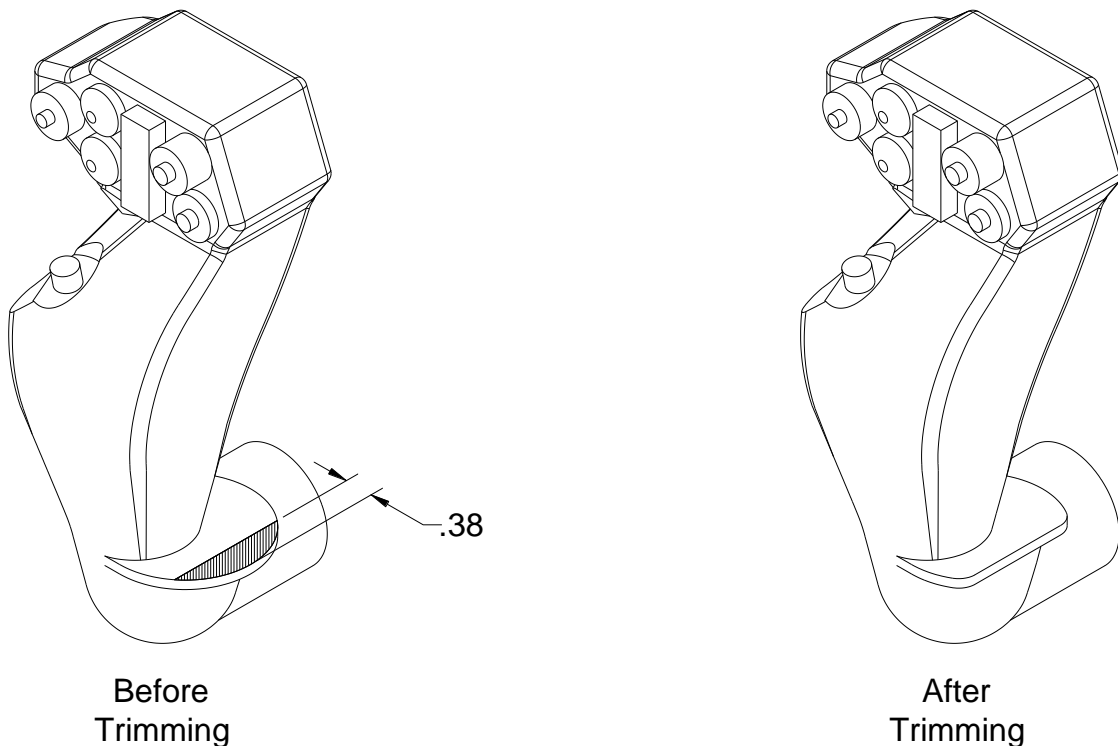

FIGURE 1
- 2.2 **Modification of Pistol Grip.** If the base of the grip has a flange that sticks out to help support the hand, remove 3/8" of this flange as shown in Figure 1 below. Sand the cut areas smooth. This step will be easier to perform if it is done after the grip is removed from the original stick during the stick replacement step. Both the Pilot and Copilot grips are to be modified.